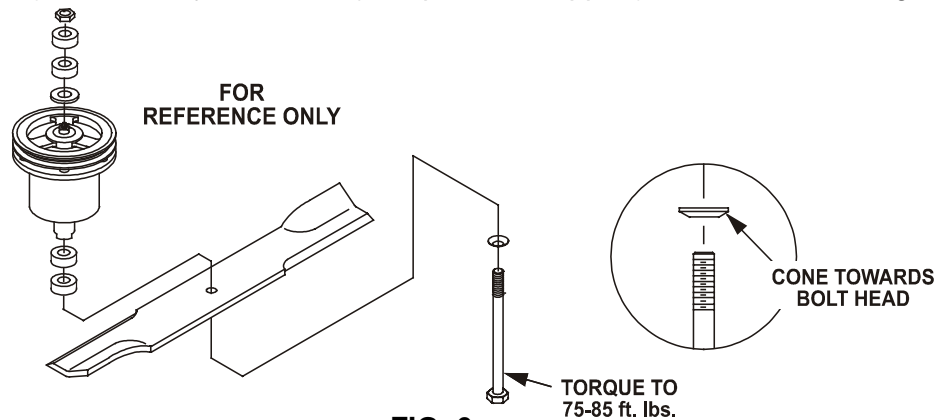

FIG. 6
- g) Re-install the blades (if they were removed) and torque blade bolts to 75-85 ft. lbs. Be sure the spring disk washer cone is installed toward the bolt head (See Figure 6).